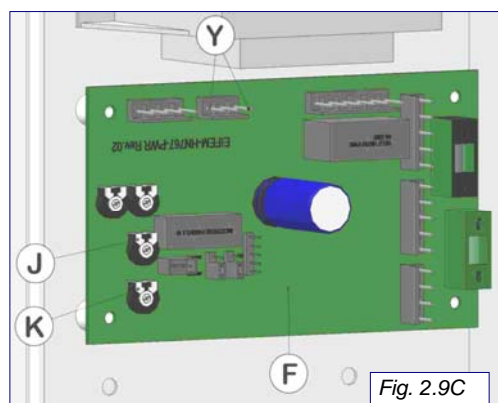

Fig. 2.9C
When transformation has ended, it will be necessary to seal the gas flow adjustment screw (A) and the trimmer screw (K) on the control panel (F) (Fig. 2.9C), using a suitable varnish.